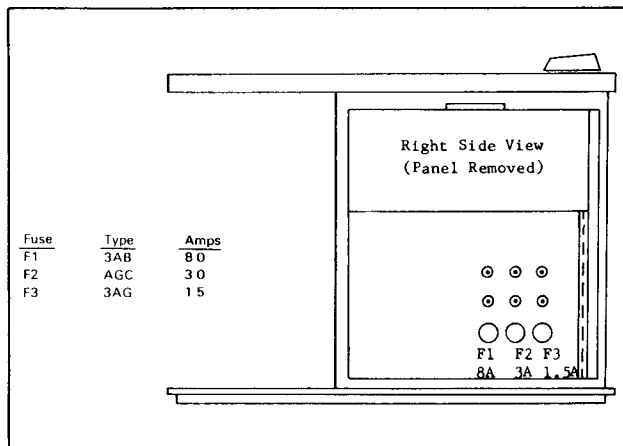

Figure 7-1. Equipment Controller Fuse Location
- Are any fuses blown? (Refer to Figure 7-1 for fuse location and type.) A blown fuse is indicated by a glowing orange light.